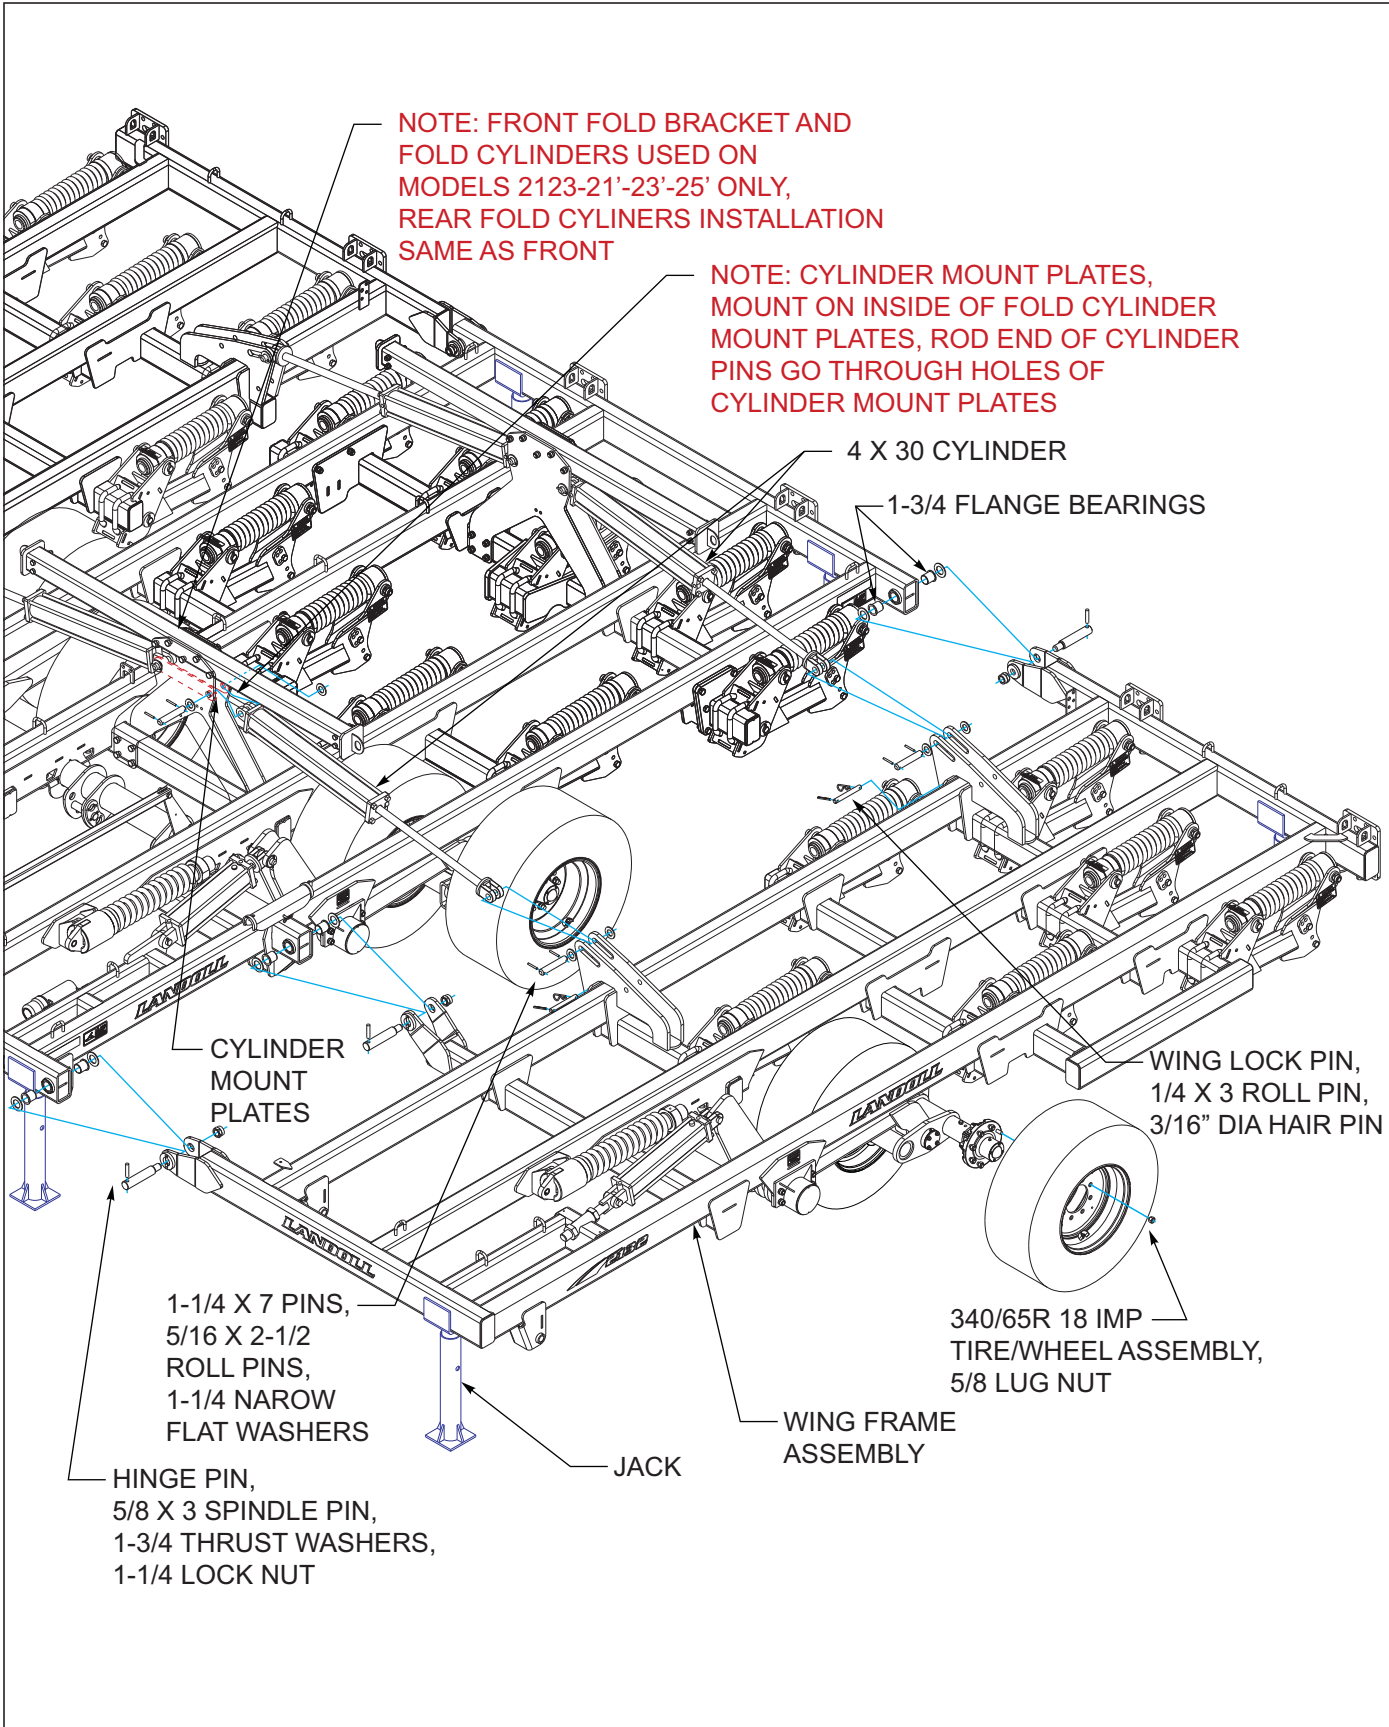

Figure 3-5: Wing Frame Installation
Be sure all 1-3/4 flange bearings are installed in both front and rear of each center frame hinge points See Figures 3-5.
3. Attach right and left wing frame assemblies to the center frame assembly using hinge pins, 5/8 x 3 spindle pin, 1-1/2 thrust washers, and 1-8 hex lock nuts *See Figure 3-5.*